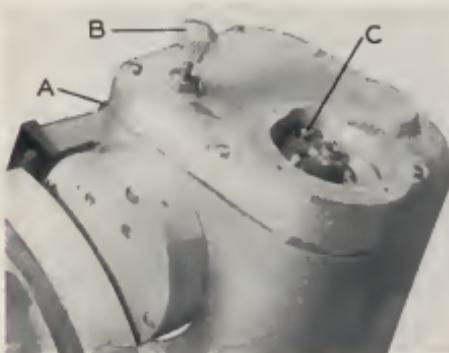

Fig. 10—Low slugger head, top view.
Whenever it is desired to throw the low-slugger cutter out of operation, the button (B, Fig. 10) on the top of the low-slugger head should be pulled up. This holds the actuator arm up, preventing the pawl from engaging in the ratchet to pull the cutter down into cutting position.
and tighten gently. Reassemble parts. Remove four screws holding round cover plate on top of housing and turn the depth adjusting screw (C) Fig. 10 counter-clockwise $1\frac{1}{2}$ turns. Place in operation and adjust for proper depth of cut. Never turn adjusting screw while machine is in operation, unless the low slugger on-off button (B) Fig. 10 is pulled up. Otherwise there is danger of running the cutter into the cutter guard.